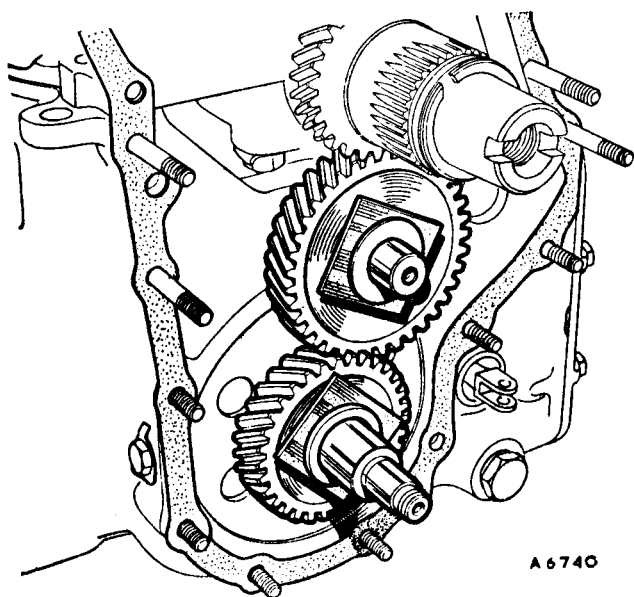

Fig. Aa.13
25. Fit input Service tool 18G 1098 interposed with a dental wax washer (Fig. Aa.13).
**NOTE.**—If the input gear will not fully mesh with the idler gear, this indicates that the third speed reaction gear thrust washer has become displaced. Therefore it is necessary to remove, dismantle, and reassemble the gear train as detailed in Section Fa.12 (all items except (1) ).